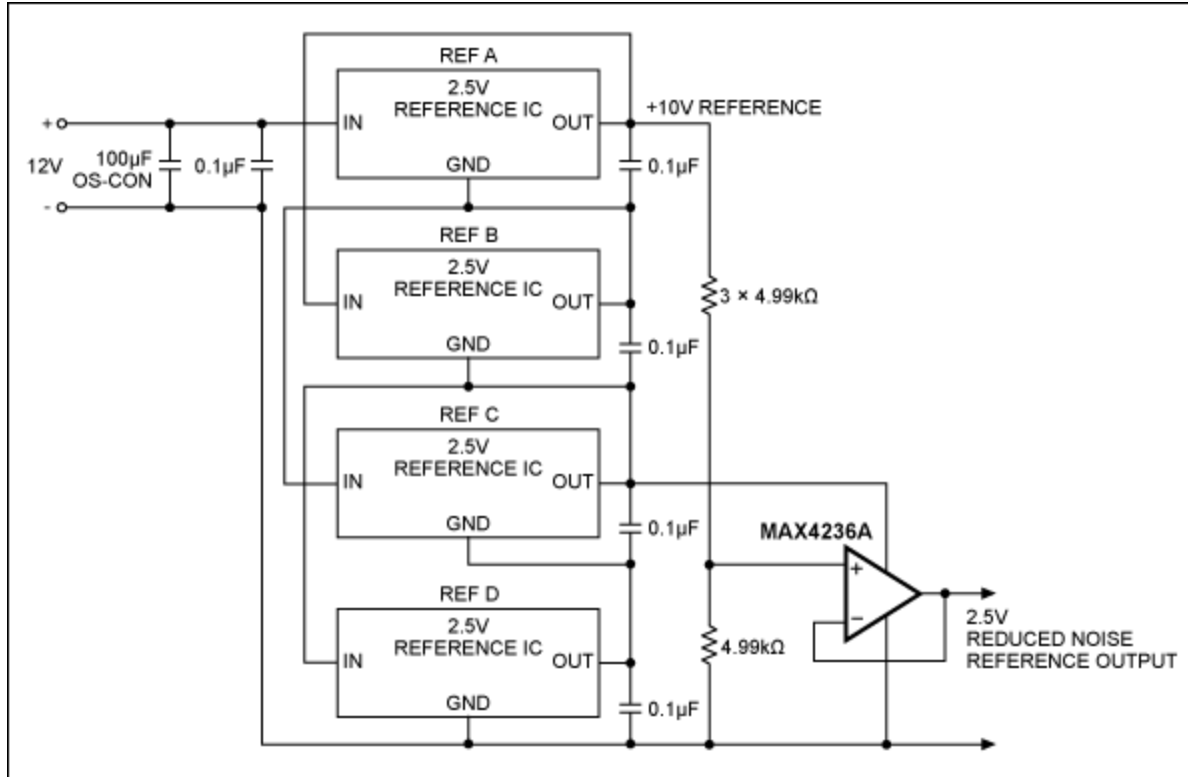

Figure 1. Four 2.5V references are stacked to produce 10V. The output is then divided back to 2.5V, which reduces the noise voltage by half.
**Figure 1** shows how to stack multiple references to generate a single, less noisy reference voltage. The resistors are parts of a high-stability metal-film network, and the op amp is selected for low noise, very low input-offset voltage, and low offset tempco.
**Table 1. Noise Voltage Measurements of the Circuit in Figure 1 Using the MAX6037 2.5V Voltage Reference**
**Table 2. Noise Voltage Measurements of Figure 1 Circuit Using MAX6143 2.5V Voltage References**